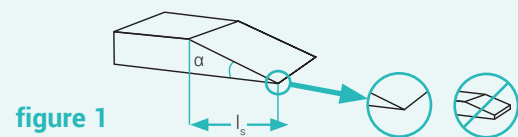

figure 1
- Skive cut at the beginning: Unwind around 0.5 m of the sealing tape and cut the end with a sharp knife by using the skive cut technique → length of the skive cut ( $l_s$ ) = approx. 25 mm, angle  $\alpha < 15^\circ$  (figure 1)